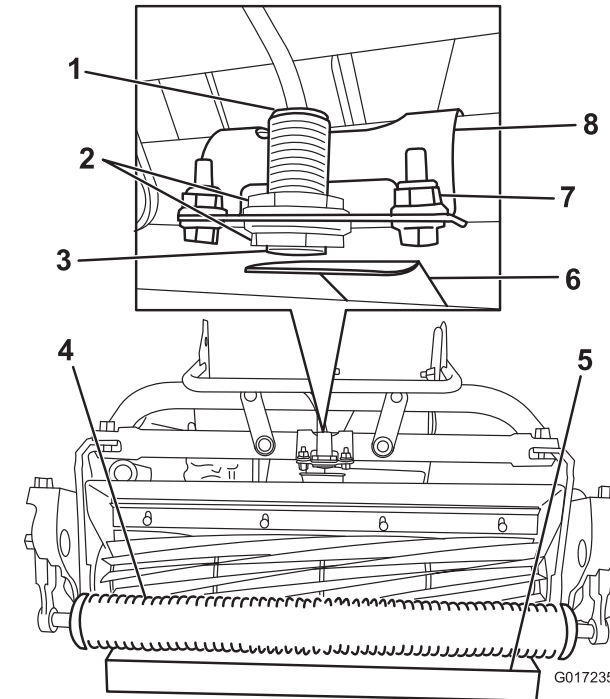

Figure 16
- Loosen the jam nuts on the sensor and adjust the sensor so that 1 thread is visible past the lower jam nut (Figure 16).
- Place a 3.8 cm (1-1/2 inches) block under the front cutting unit roller (Figure 16).
- Loosen the fasteners securing the sensor bracket to the frame (Figure 16).
- Rotate the sensor bracket toward the target plate until the light on top of the sensor illuminates (Figure 16). If it was already illuminated, rotate it away from the target plate until it goes out and then reverse direction just until it illuminates again.